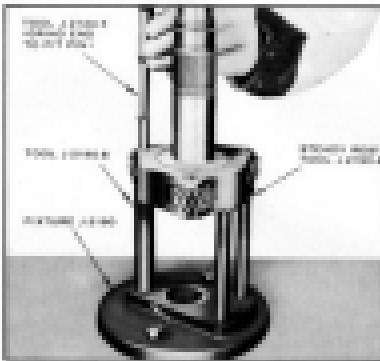

Fig. 515. Installing Rear Unit Planet Pin.
- With the use of tool J-2144-1 and a light hammer, drive planet pins through carrier, thrust washers and needle bearings. (Fig. 515)
11. Remove assembly and place over arbor J-2175-2. (Driving heads of pins against arbor). Position the reaming tool J-2175-1 over planet pin and ream end of each pin in the same manner as shown in Fig. 515.